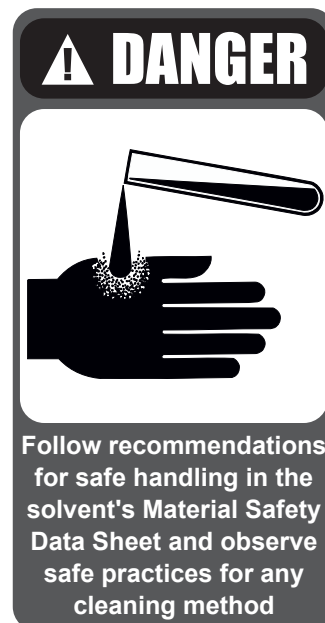

Figure 31: Lifting Lever Disassembly
3. If a lifting lever is installed, also use Figure 31 to remove the Lifting Lever assembly. Then return to Figure 30 to continue disassembly.